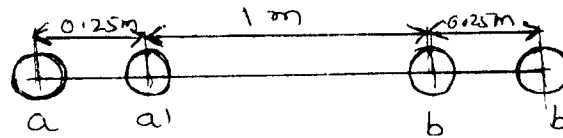

Fig Q5(b)
b. A single phase line consists of two circuits in parallel as shown in Fig Q5(b). Conductors a and a' in parallel form one conductor while b and b' in parallel form the return path. Calculate the total inductance of the line per km assuming that current is equally shared by the two parallel conductors. The diameter of each conductor is 20mm. (06 Marks)